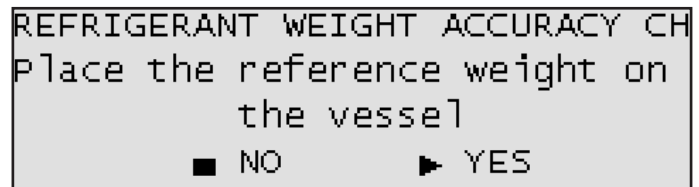

Fig. 35: Place weight screen
6. Follow the instructions on the screen and when the screen in Fig. 35 is displayed, place the reference weight below the tank over the two screws of the load cell and press **YES** (**↵**).